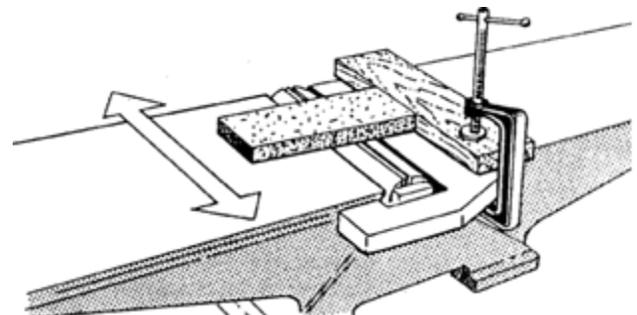

Fig. 13
3. Clamp a block of wood across the infeed table as shown in (Fig.13) in order to block the end of a fine India stone or oilstone during the jointing operation. This helps to prevent kickback of the stone.
5. Keeping hands well clear of the cutterhead, place the stone into position as shown in (Fig. 13), and slide the oilstone back and forth across both tables until the knives are lightly jointed.